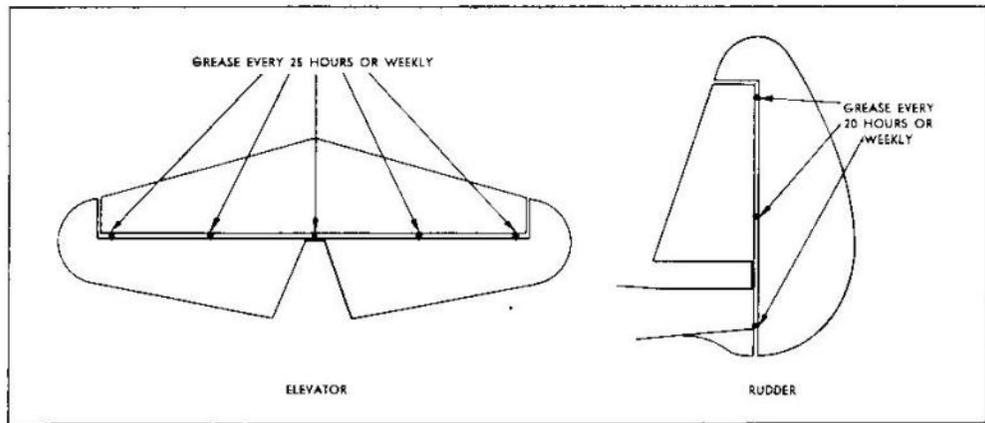

Figure 11 - Elevator and Rudder Lubrication Diagram
- (2) Elevator hinges. (See figure 11.)
- (3) Rudder hinges. (See figure 11.)